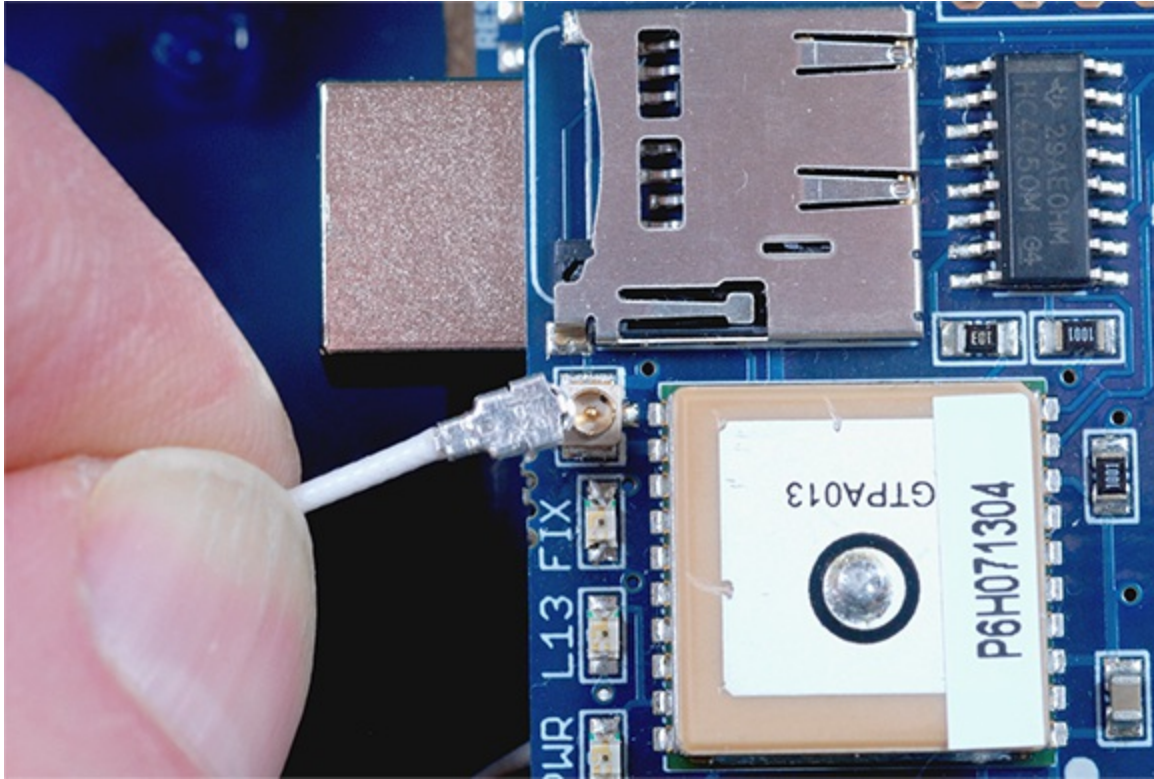

Figure 13-17: Connecting the optional external antenna adapter.
6. If you are using an external antenna, insert the u.FL connector into the socket on your GPS shield, as shown in Figure 13-17.